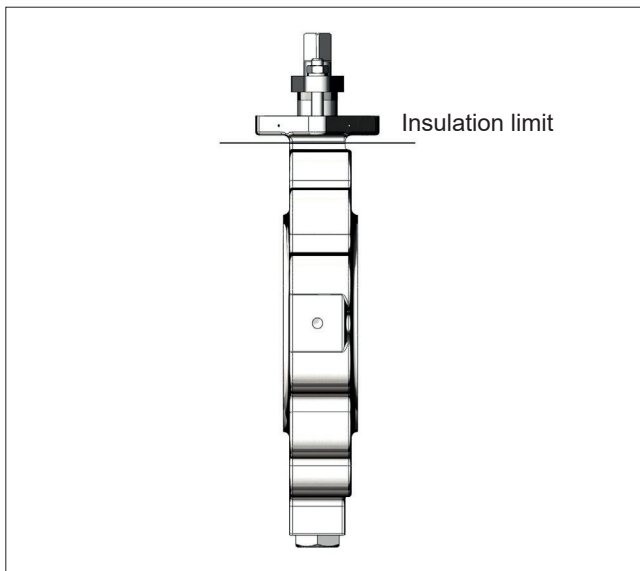

Figure 6. Insulation of the valve
7. It is not recommended to install the valve with the stem on the underneath side because dirt in the pipeline may then enter the body cavity and potentially damage the stem packing (**see Figure 6**).